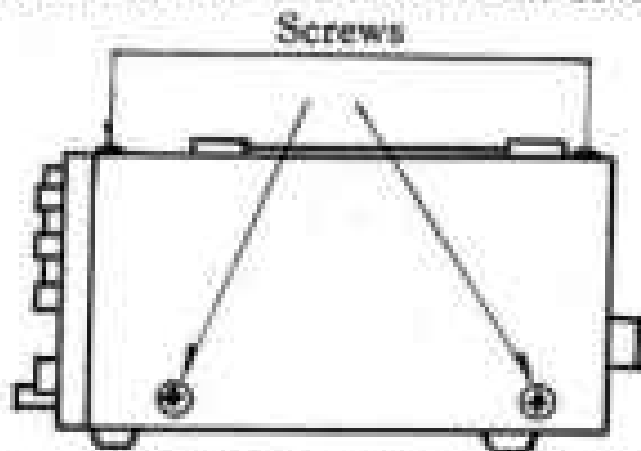

Fig. 5-1 Removal of covers (right side shown).
2. Referring to Fig. 5-1, remove screws as shown for covers on each side and take off the covers.